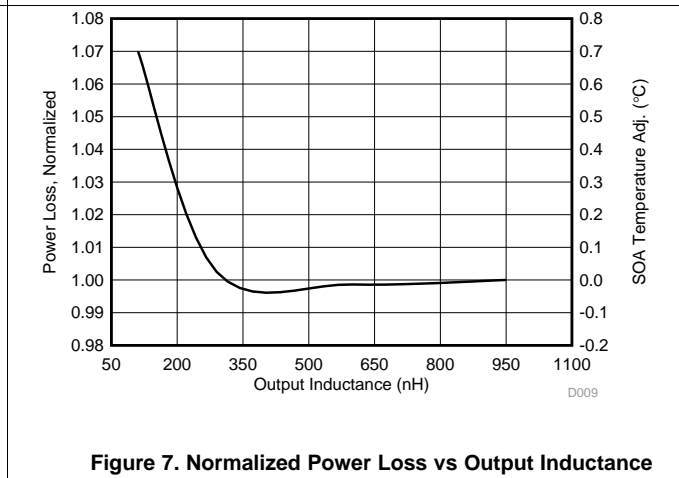

Figure 7. Normalized Power Loss vs Output Inductance
- Normalized power loss for output inductor ≈ 1.0 (Figure 7)
- SOA adjustment for output inductor ≈ 0.02°C (Figure 7)